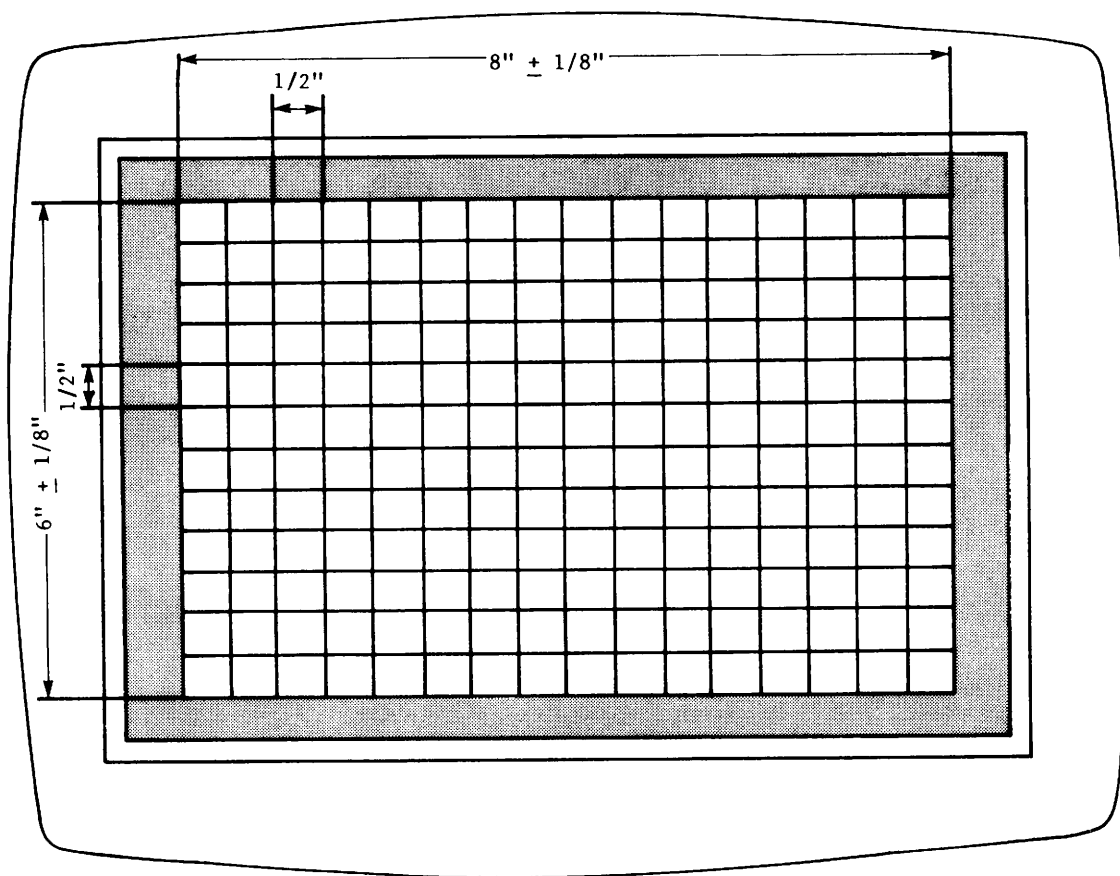

Figure 5-15. Monitor Alignment Grid Pattern
- 8) Depress the SPACE BAR once more to display the GRID PATTERN as shown in Figure 5-15.
- 13) Now, depress the SPACE BAR once to display the Monitor Alignment Grid Pattern. Refer to Figure 5-15.
- 15) Now adjust the Vertical size (R36) [R7] for a display height of 6 inches $\pm 1/8$ inch (15.2 cm ± 3 mm). See Figure 5-15.
- 16) Adjust the Horizontal Width coil (Z2) [Z1] for a display width of 8 inches $\pm 1/8$ inch (20.3 cm ± 3 mm). See Figure 5-15.